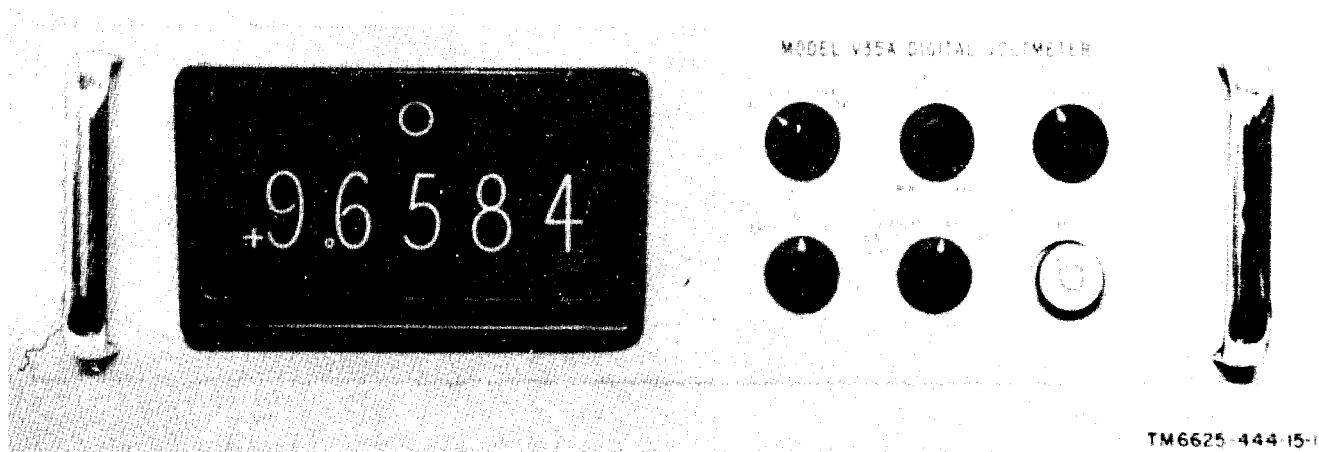

Figure 1-1. Digital Voltmeter AN/GSM-64.
a. This manual contains instructions covering operation, organizational, direct support, general support, and depot maintenance of Digital Voltmeter AN/GSM-64 (fig. 1-1). It includes instructions for troubleshooting, testing, aligning, and repairing the equipment. Also included is the functioning of the AN/GSM-64.
connector and all operating controls are located on the front panel (fig. 1-1). Except for ratio measurements, all functions normally controlled from the front panel may also be remotely controlled through a rear panel connector. The instrument provides contact closures between terminals of a rear panel connector to operate a printing device. The signal input is completely isolated from chassis ground, permitting operation with both input leads either above or below chassis ground.
a. The CX-7495/GSM-64 (fig. 1-3) connects dc input voltages to the equipment. The CX-7495/GSM-64 plugs into either the front panel signal input connector (fig. 1-1) or rear panel signal input connector J-115 (fig. 1-2).